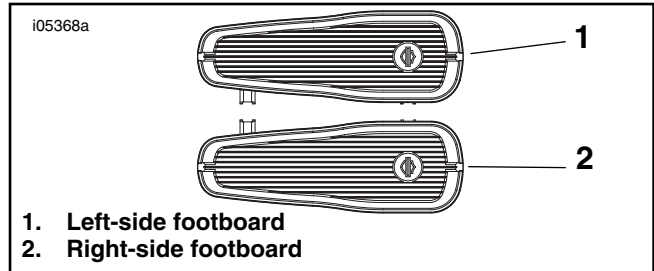

Figure 1. Footboard Installation
3. Set the correct footboard (see Figure 1) in place over the mounting brackets. Line up the holes and install the shoulder bolts and locknuts from the kit. Tighten to 7-9 ft-lbs (9-12 Nm).